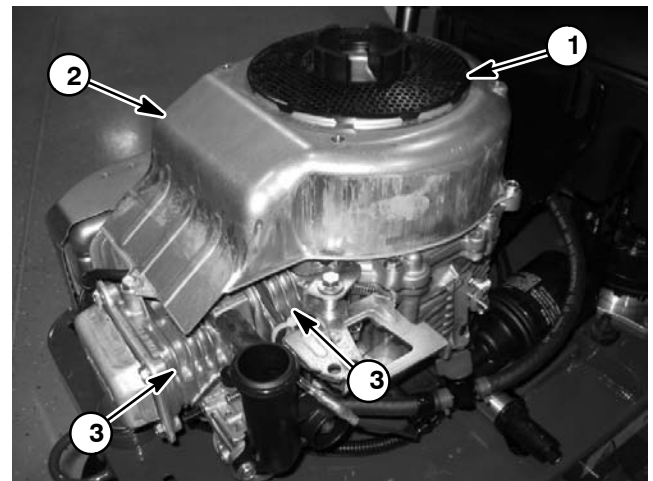

Figure 2
2. Remove rewind starter and clean rotating screen (Fig.2).